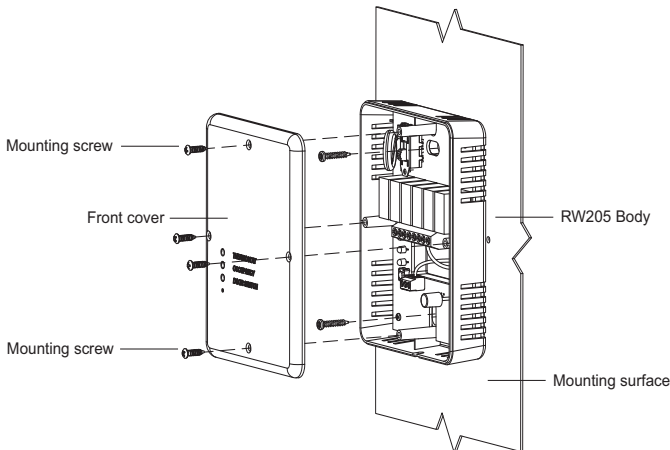

Fig. 1. Surface-Mount Installation
- Mounting on a standard 2" x 4" device box. The RW205 backplate contains mounting slots for vertical installation. See Figure 1 below.
- Mounting on the inside surface of a PTAC wiring enclosure. Mount through device box holes with (2) sheet metal screws. See Figure 1 below.